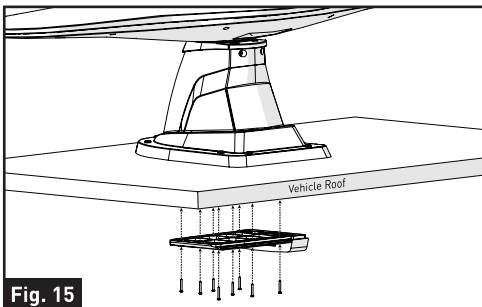

Fig. 15
3. Cover the base of the ceiling mount bracket over the cutout area and secure with eight stainless steel self-tapping screws (not supplied). (Fig. 15)